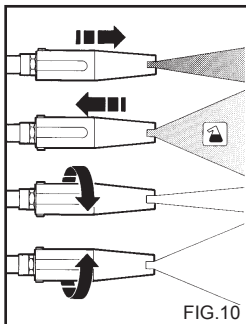

FIG.10
USING THE MULTIREG ADJUSTABLE NOZZLE (fig. 10)
- 2) Start the cleaner, turn on the detergent tap (if present), switch on the detergent suction control on the lance (fig. 10) and spray the dirty surface with the diluted product, working from bottom to top. Let it react for a few minutes.